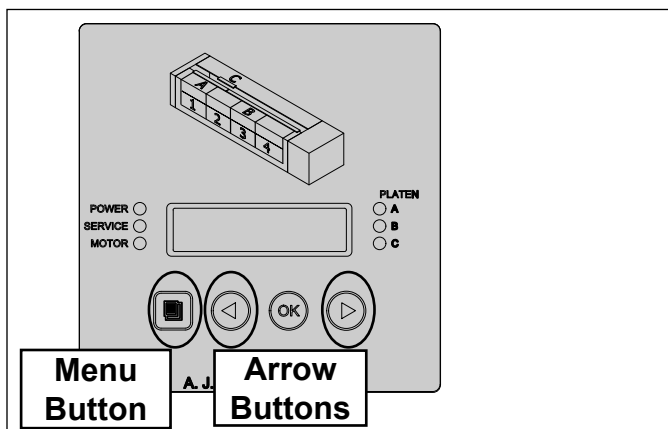

Figure 4. HEBT-5V Control Panel
- a. Press and hold the **MENU** button for five seconds (Figure 4). The control panel displays "A Platen."
1. Set the unit to display temperatures in degrees Fahrenheit (steps 1a and 1b). Press and hold the **MENU** button for five seconds (Figure 4). The control panel displays "A Platen."
1. When the unit is plugged in, press and hold the **MENU** button (Figure 4) for five seconds. The control panel displays "A Platen." The display scrolls to show the actual temperature, SSR Duty cycle, and the setpoint.
2. Use the **LEFT** and **RIGHT** arrow buttons (Figure 4) to scroll through the settings, which appear in the following order:
3. To change a setting, press the OK button and then use the LEFT and RIGHT arrow buttons to adjust as needed. Press the OK button again to save the changes. See Figure 4.